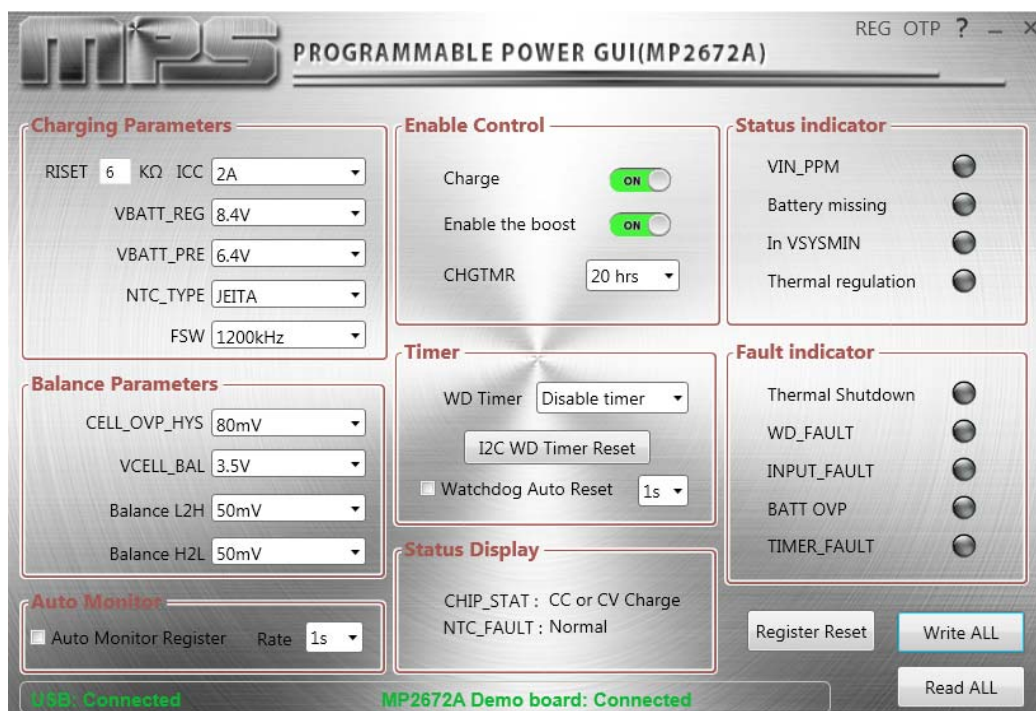

Figure 5: Successful Demo Board Connection
1. Ensure that all the connections are normal (the USB is connected and the EV2672A-D-00A is connected). If all the connections are successful, the user is able to run the program (see Figure 5).
2. Turn the DC source on. It should be ready to run the MP2672A in boost charge (see Figure 5).